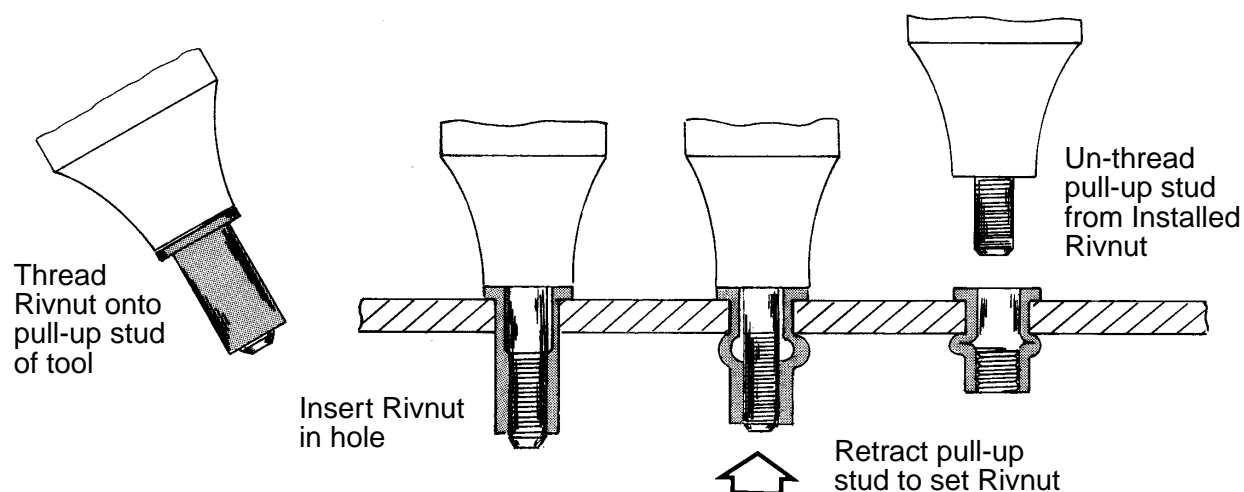

Figure 11 - Installation of Rivnuts
5.7 Installation of Rivnuts (See Figure 11)